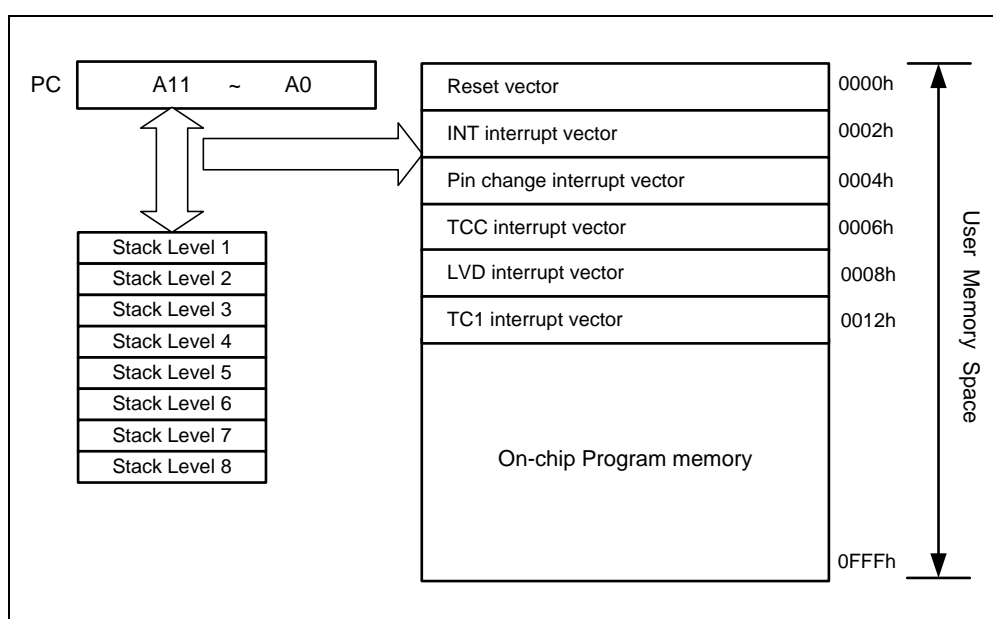

Figure 6-1 EM78P224N Program Counter Organization
- Depending on the device type, R2 and hardware stack are **12-bit** wide. The structure is depicted in the following Figure 6-1; *EM78P224N Program Counter Configuration*.